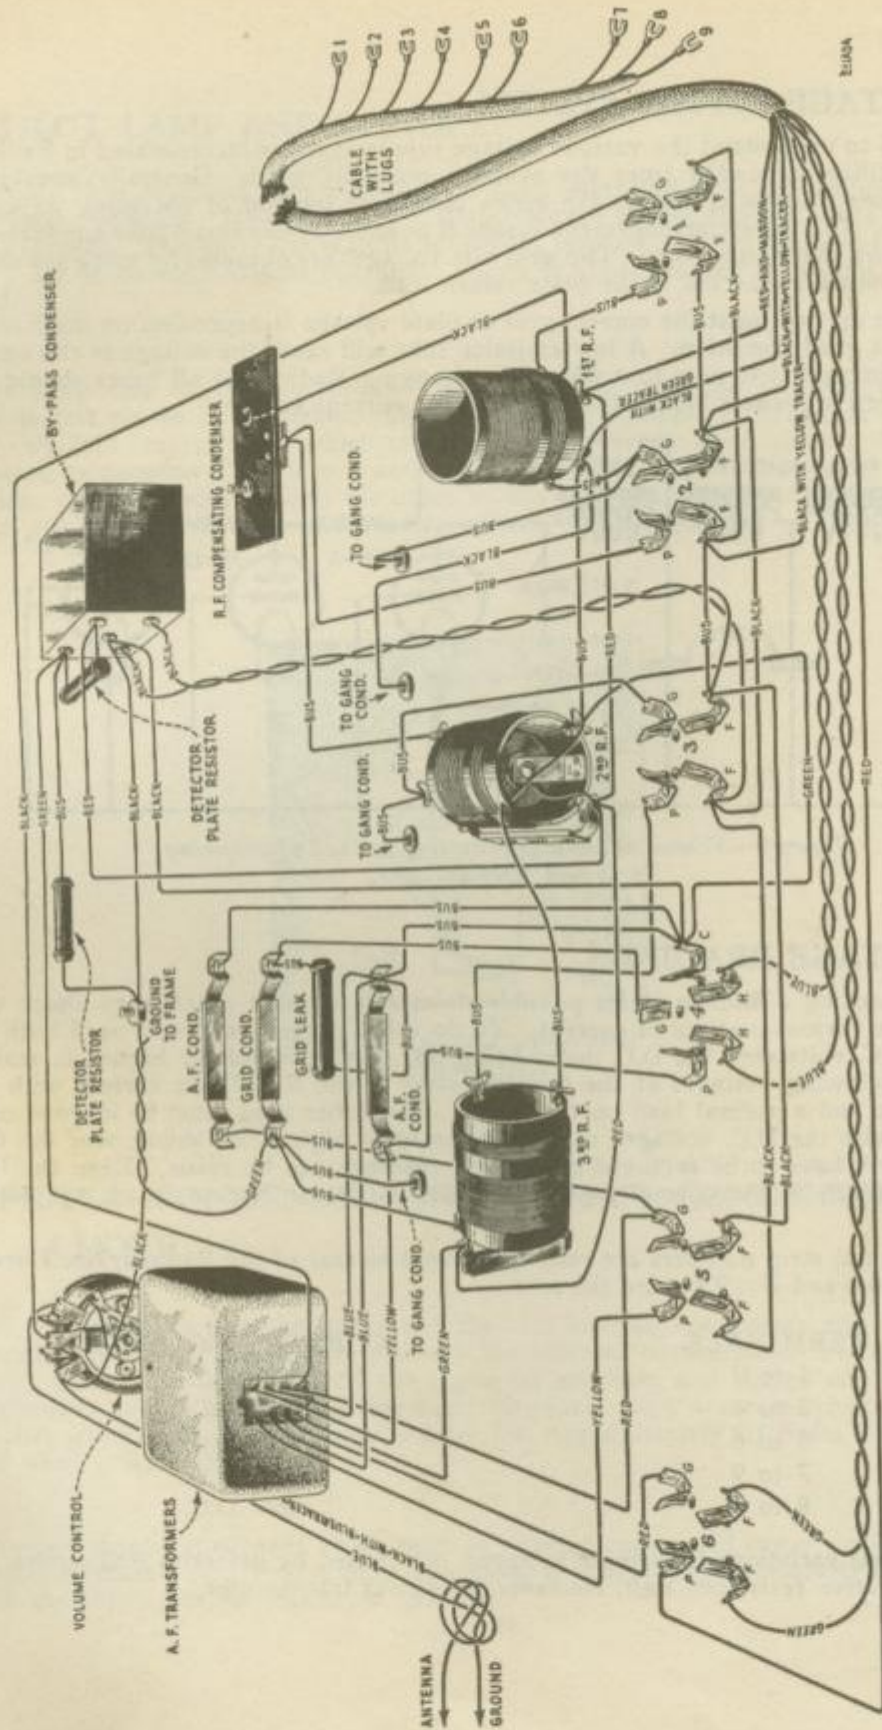
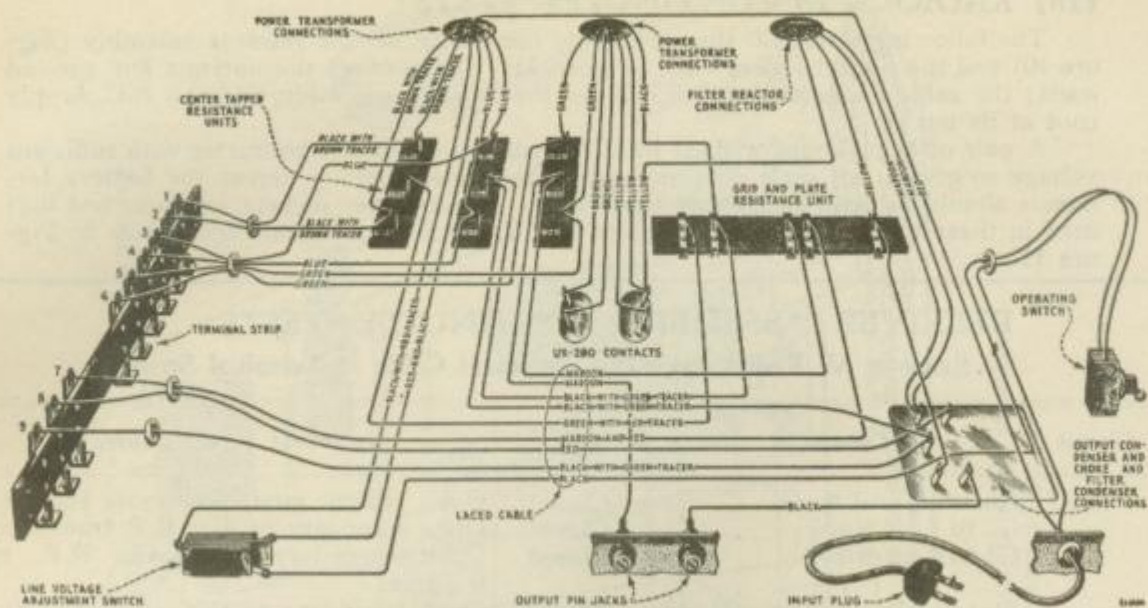
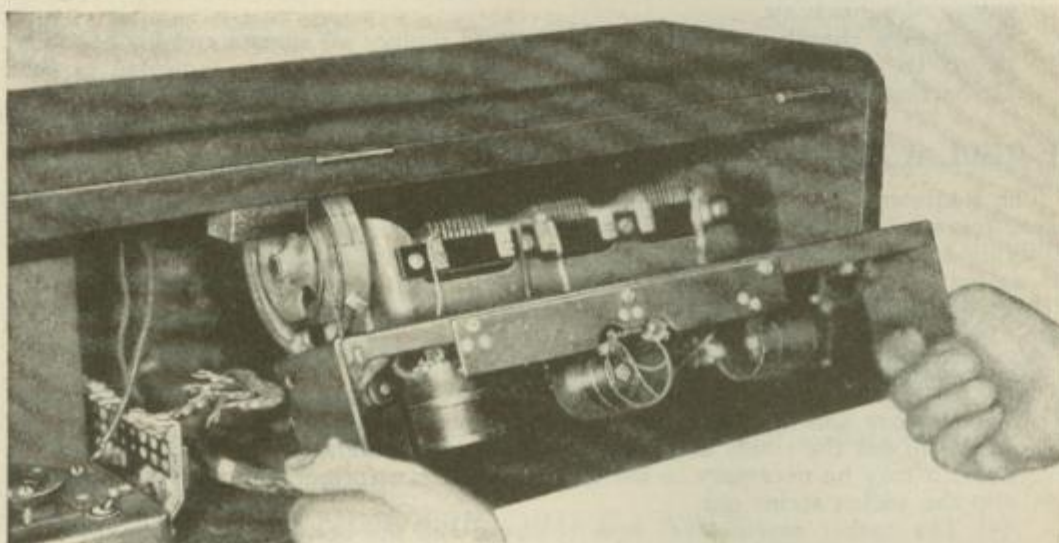

Figure 10—Wiring diagram of receiver sub-chassis assembly showing location of parts and color scheme of connections.
Figure 11—Wiring diagram of socket power unit showing location of parts and color scheme of connections.
Figure 12—Removing receiver chassis assembly from cabinet.
The following tests will show complete continuity for the receiver assembly (Figure 10) and the Socket Power Unit (Figure 11). Disconnect the antenna and ground leads; the cable connecting the S.P.U. to the receiver assembly, and the A.C. supply cord at its outlet.
A pair of headphones with at least 4½ volts in series or a voltmeter with sufficient voltage to give a full scale deflection when connected directly across the battery terminals should be used in making these tests. The receiver sockets, numbers and lugs used in these tests are shown in Figure 10. The S.P.U. terminals are shown in Figure 11.
- (4) Release the cable connecting the socket power unit to the chassis assembly and the two leads to the pilot lamp. This is done by loosening the screws holding them to the terminal strip of the socket power unit.
- (5) Remove the four screws holding chassis in place to bottom of cabinet. The chassis may now be removed by rocking it in the cabinet and slipping it out of the back opening. (See Figure 12.)
- (6) Unsolder and tag the leads to the volume control.
- (7) Remove the two screws that hold the volume control to the metal chassis. The volume control may now be removed and the new one fastened in place. The connections to the new volume control should be made as indicated on the tags attached to the wires, or refer to Figure 10.
- (8) The Radiola is reassembled in the reverse order of that already given.
- (1) Remove the chassis assembly from the cabinet as described in Part III, Section 1.
- (2) Unsolder and tag all connections to the three transformers.
- (3) Remove the three screws that hold the mounting strip to the metal chassis. The entire assembly can now be removed. The new assembly is placed in the position occupied by the old one.
- (4) Replace the screws that hold the mounting strip to the metal chassis.
- (5) Replace and resolder all leads to the three transformers as indicated on tags previously attached to them. These connections are shown in Figure 10. When making this replacement be careful not to disturb the two condensers connected across the concentrated coils. Placing these condensers closer to the coils than their normal position will affect the inductance of the coil with a resulting decrease of sensitivity.
- (6) Return chassis assembly to cabinet and replace all screws and knobs. Now adjust the compensating condenser to the correct position as indicated in Part II, Section 10.
- (1) Remove chassis assembly from cabinet as described in Part III, Section 1.
- (2) Remove and tag all leads to the terminals of the sockets.
- (3) Drill out the rivets holding the sockets to the metal chassis frame. In some cases it may be necessary to loosen the R.F. transformer assembly in order to slip the socket strips out.
- (4) The socket assembly is now removed and the new one placed in the position occupied by the old one.
- (5) Fasten new socket in place by using small head machine screws, nuts and lock washers in place of the rivets previously removed.
- (6) Replace connections as indicated on tags attached, or refer to Figure 10 for the correct socket connections.
- (7) Return chassis to cabinet.
- (1) Remove chassis from cabinet as described in Part III, Section 1.
- (2) Remove tuning condenser assembly from chassis as described in Part III, Section 4.
- (3) Unsolder the leads connected to the defective condensers.
- (4) The four tabs holding the condenser to the chassis may now be bent up with a screw-driver and the old condenser replaced by the new one. Insert the tabs in the holes and bend them over on the upper side of the chassis assembly. Resolder the leads to their correct terminals. The connections are shown in Figure 10.
- (5) Replace the tuning condenser assembly as described in Part III, Section 4.
- (6) Return chassis assembly to cabinet in reverse order of that used to remove it.
- (1) Remove receiver chassis from cabinet as described in Part III, Section 1.
- (2) Unsolder and tag all leads to the audio transformers.
- (3) Use a screw-driver to turn up the tabs that hold the transformer assembly to the chassis frame and remove it.
- (4) Place the new transformer in the position occupied by the old one, bend over the tabs and resolder all connections. The correct connections are shown in Figure 10.